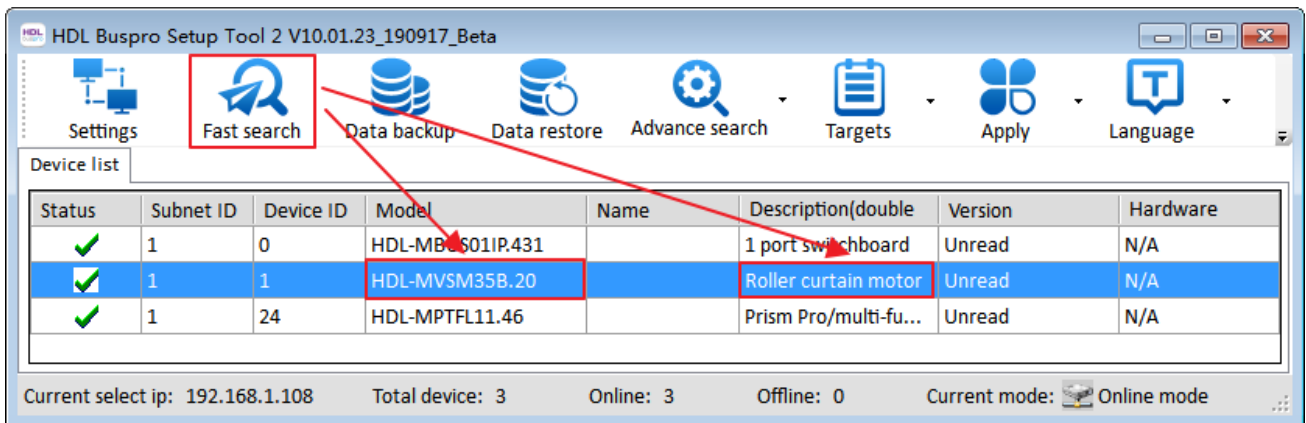
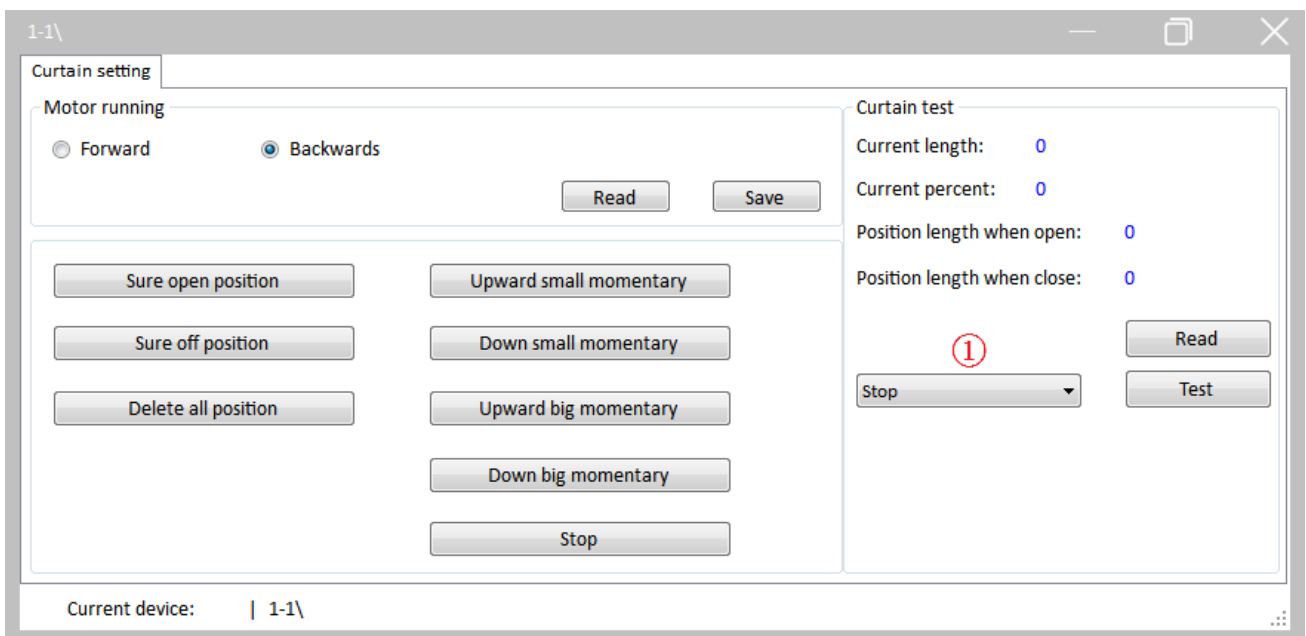

Figure 2-1 Open configuration page
Figure 2-2 Motor configuration page
- ① Power on motor, connect motor to the system and open Buspro Setup Tool 2 in the computer.
- ② Click “Fast Search” to search for the devices connected to the system.
- ③ Double click the “Model” or “Description” column of motor to enter configuration page, as shown in Figure 2-1 and Figure 2-2.